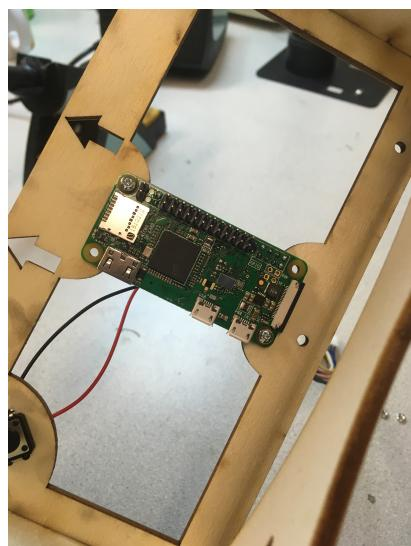

Figure 3.22: The Raspberry Pi mounted in the screenstand
Step 6 It is now time to mount the Raspberry Pi in the screen stand. Do this with the four M2.5 bolts and nuts, see Figure 3.22 (note that we only connected two bolts).